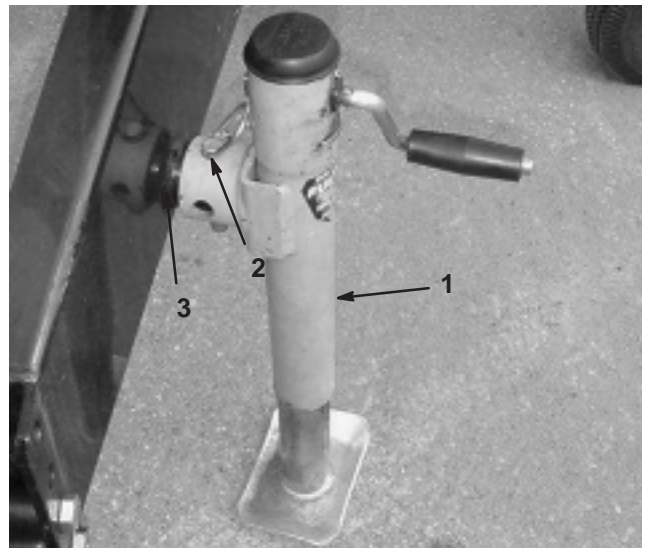

Figure 1
2. Insert jack onto frame pin and secure with pin (Fig. 1).